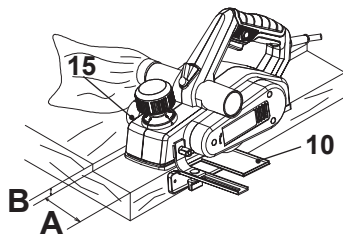

Fig. 14
1. Attach the parallel guide (10) and rebate depth gauge (15) to the product as described above and adjust to desired width (Fig. 14, A) and depth (Fig. 14, B).